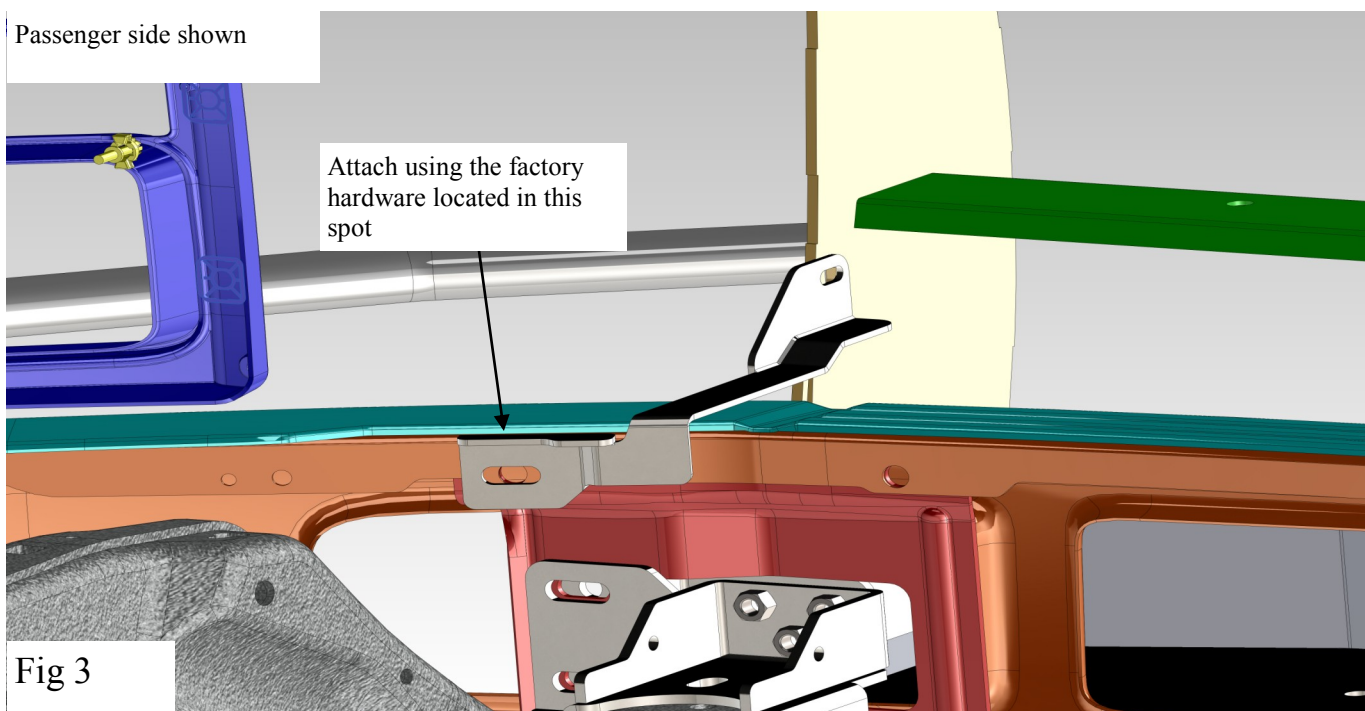

Fig 3
6. Locate the drivers side upper support bracket and attach it to the bumper frame using the factory hardware that is in place. (FIG 3)